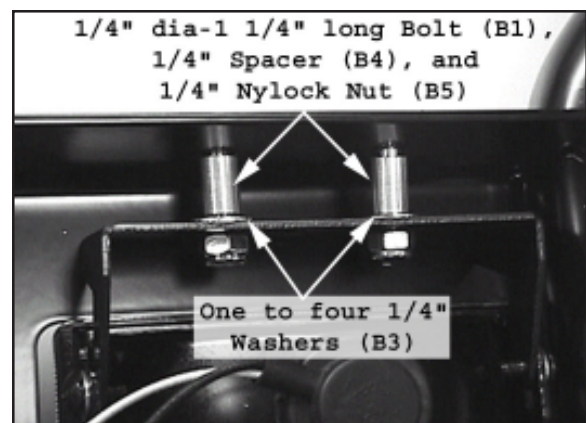

Figure 3 Install Trail Light
2. Attach the trail lights and light brackets to the bumper using 1/4" dia-1 1/4" long Bolts (B1), 1/4" Spacers (B4), and 1/4" Nylock Nuts (B5) as shown in Figure 3. One to four 1/4" Washers (B3) may be added under each spacer to better align the light with the opening in the bumper.